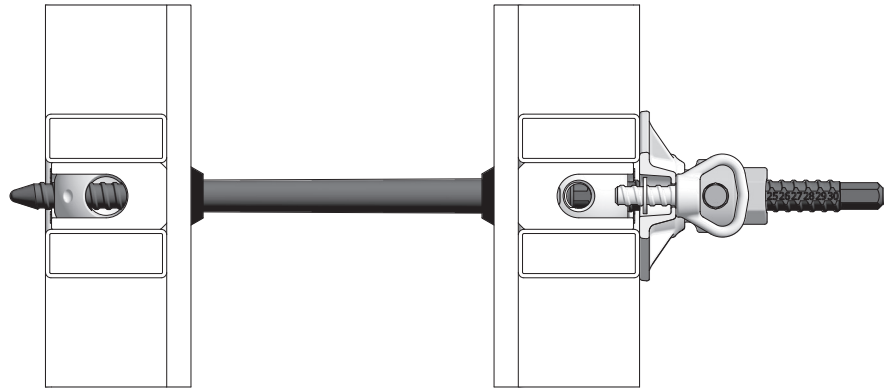

Fig. 15.1
- Single-sided tying with XT taper tie 23 without plastic tube (Fig. 15.1)